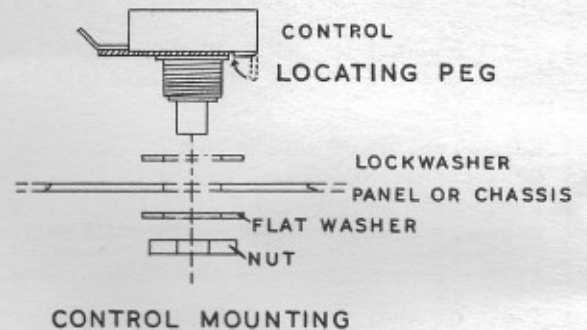
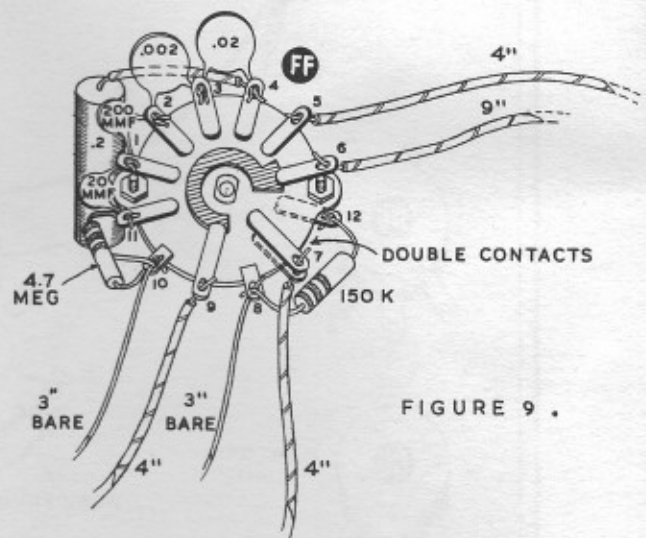

FIGURE 4.
FIGURE 9 .
- () Identify the HOR/FREQ. SELECTOR switch, FF, the 12-contact wafer switch. Observe that one of the switch contacts has tags on both sides of the wafer. Using this for reference, orient the switch as shown in Figure 9. Also note that contact 12 is on the shaft side of the switch wafer.
- () Connect a 150 K Ω resistor (BROWN, GREEN, YELLOW) from FF12 (S-1) to FF8 (NS).
- () Connect a 4.7 megohm resistor (YELLOW, VIOLET, GREEN) from FF10 (NS) to FF11 (NS).
- () Connect a 20 pF ceramic disc capacitor from FF11 (S-2) to FF1 (NS).
- () Connect a 200 pF ceramic disc capacitor from FF1 (S-2) to FF2 (NS).
- () Connect a 0.002 μ F ceramic disc capacitor from FF2 (S-2) to FF3 (NS).
- () Carefully check the switch wiring against Figure 9. When satisfied that it is correct in every detail, mount the switch on the panel at FF. Be sure contacts FF3 and FF4 are pointing towards the tube panel ring. Follow Figure 4 for assembly details.